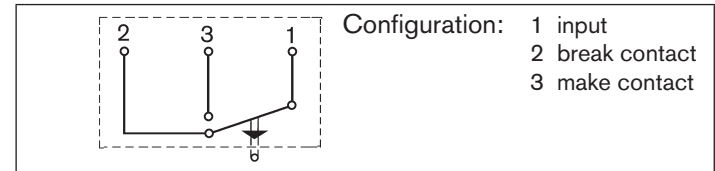

Fig. 26: Electrical circuit
- Loosen the screw in the cap ④ and remove the contact insert ②.
- Guide the cable through the union nut ⑧.
- Make the connection as shown for the circuit (see "Fig. 26: Electrical circuit").